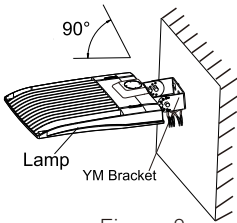

Figure 8
Step 3:Connect the fixture to the bracket and tighten the screws; connect the wires properly and put them into junction box. (Figure 8)
Notice: Adjustable angle is 0-90°(Figure 8)